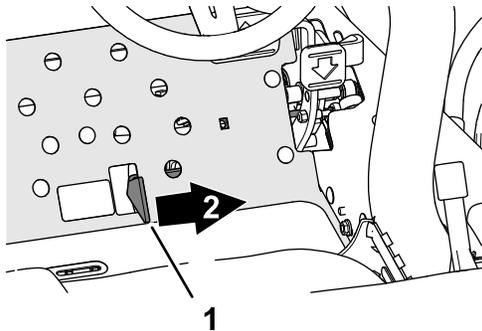

Figure 37
4. Push the lower mow/raise lever forward (Figure 37) to lower and run the cutting units (the front cutting units are timed to lower before the rear cutting units).
3. Press the cutting unit drive switch to the ENGAGE position (Figure 37).